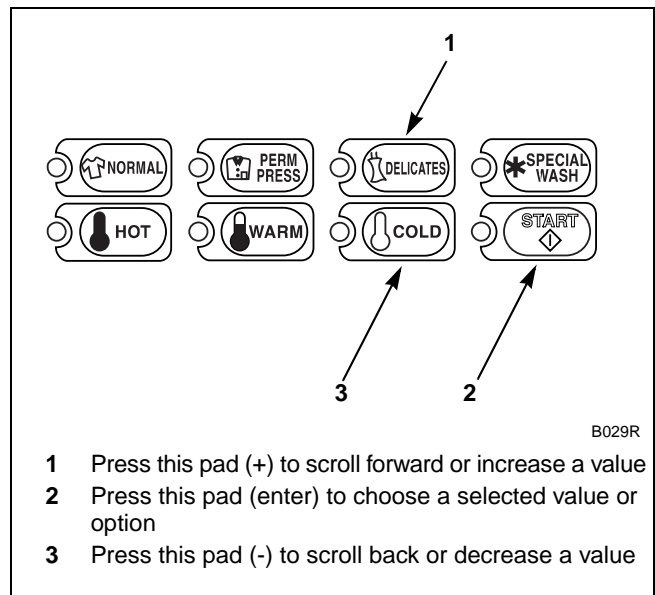

Figure 185
5. Press the DELICATES (+) or the COLD (-) keypad to increase or decrease the current number to the desired number selected from *Table 5*. Refer to *Figure 185*.